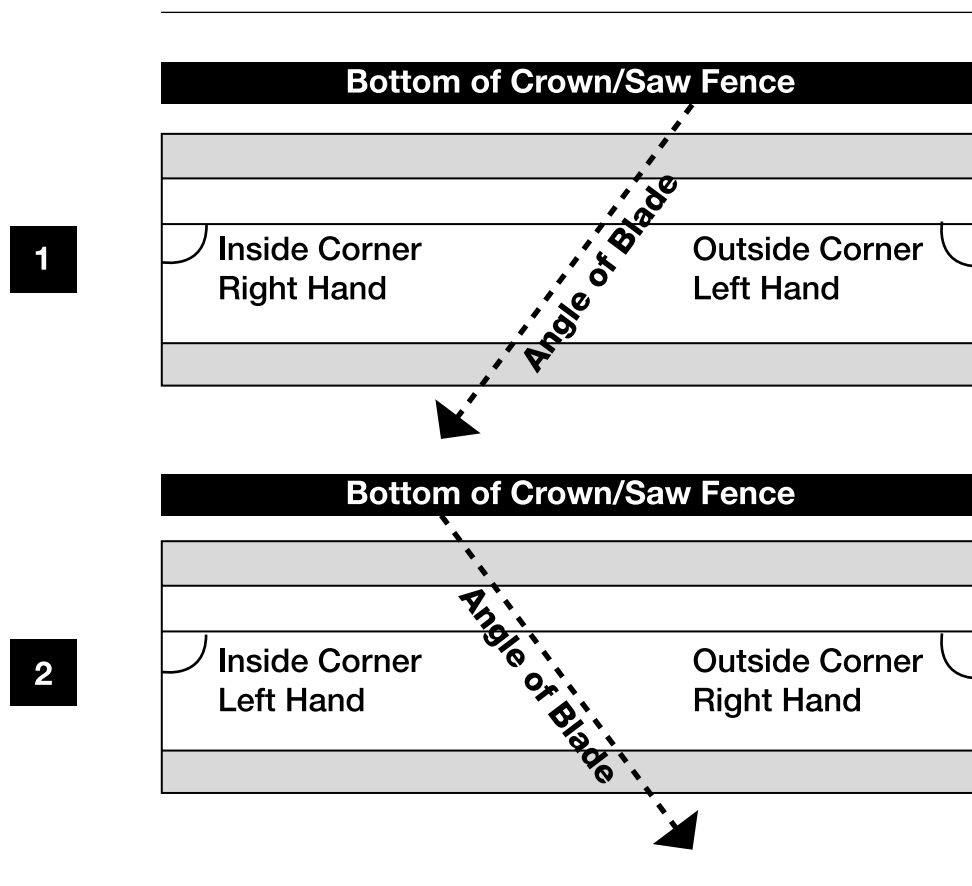

Fig 3.
1. Cut two lengths of crown moulding about 16 inches long. Set the crown moulding on a flat service with the top edges facing each other. Label the pieces as follows [Fig 3.];